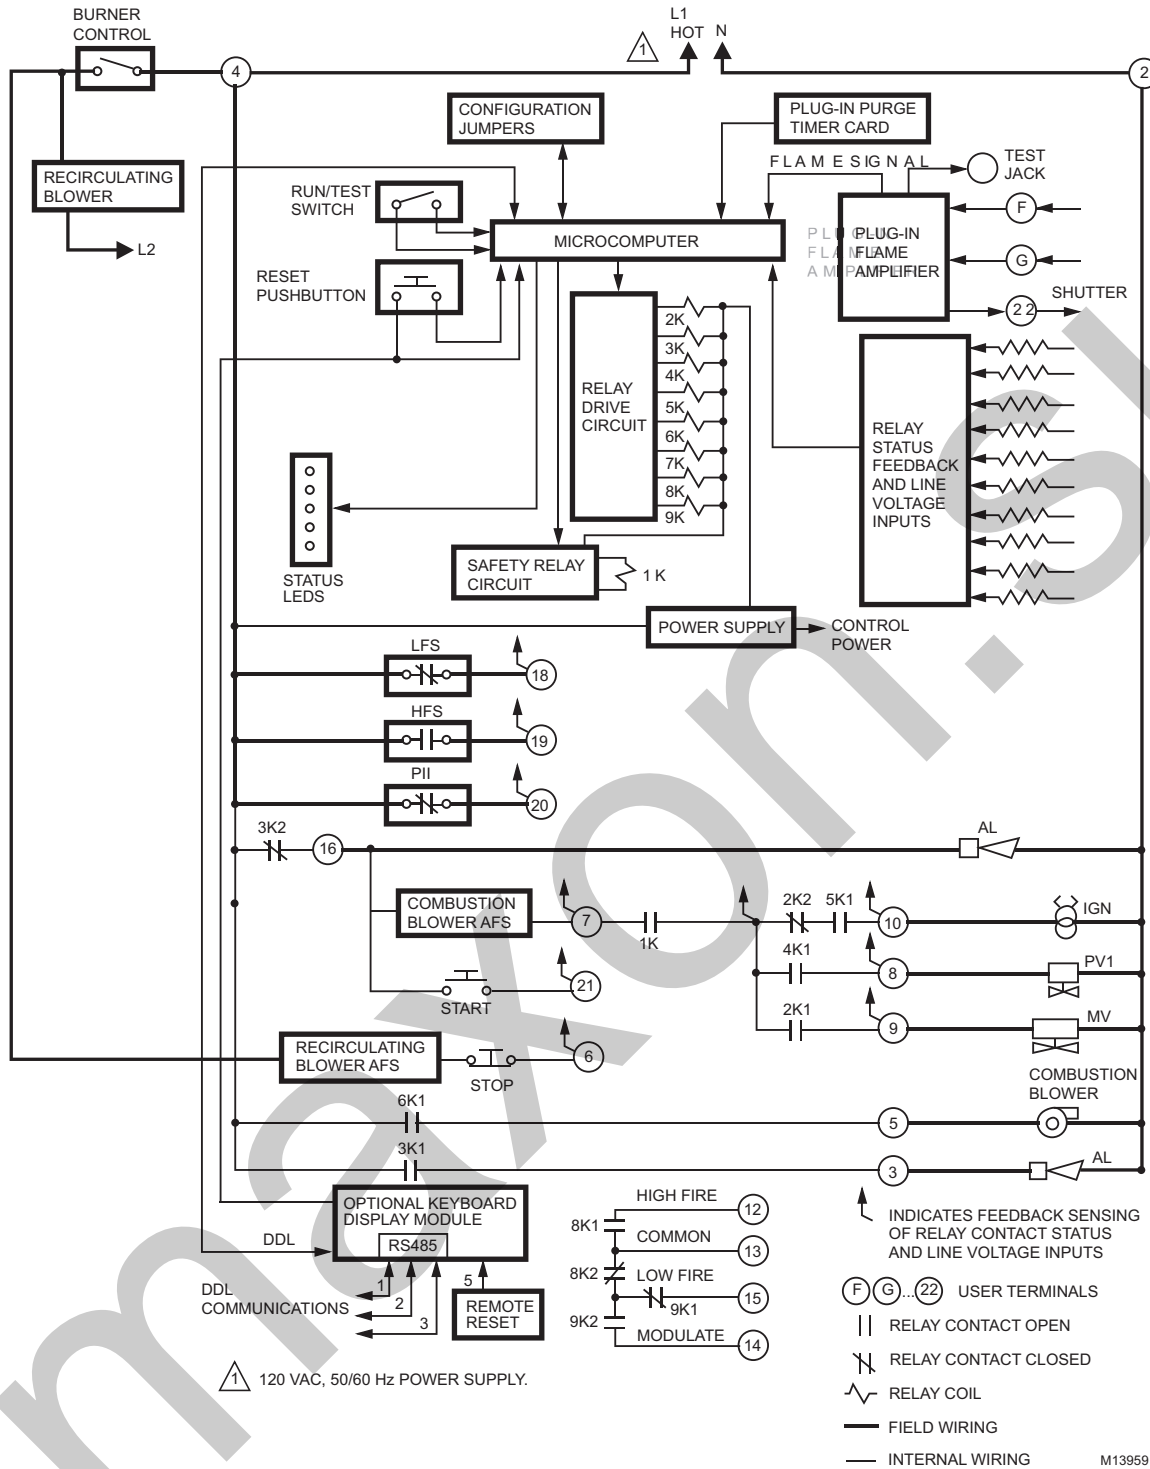

Fig. 2. Internal block diagram of RM7838C1020 (see Fig. 5 for detailed wiring instructions).
1. Wiring connections for the relay modules are unique; refer to Fig. 2 and 3 or the appropriate Specifications for proper subbase wiring.
1. Refer to Fig. 2 or 3 for proper subbase wiring.